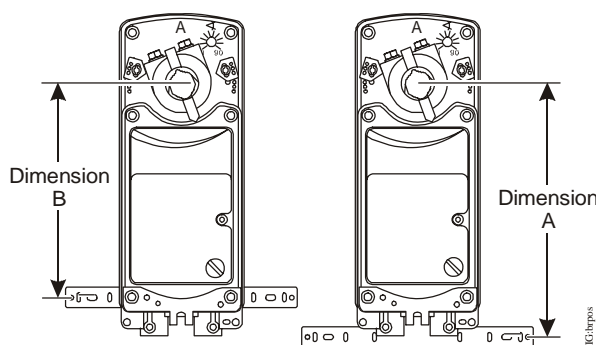

Figure 5: Positioning the Anti-Rotation Bracket (See Table 2.)
1. See the dimensions in Figure 5 and Table 2 to ensure the correct positioning of the anti-rotation bracket.
3. Drill mounting holes in the damper frame or duct using the anti-rotation bracket as a guide (based on the measurements obtained in Table 2 and Figure 5).